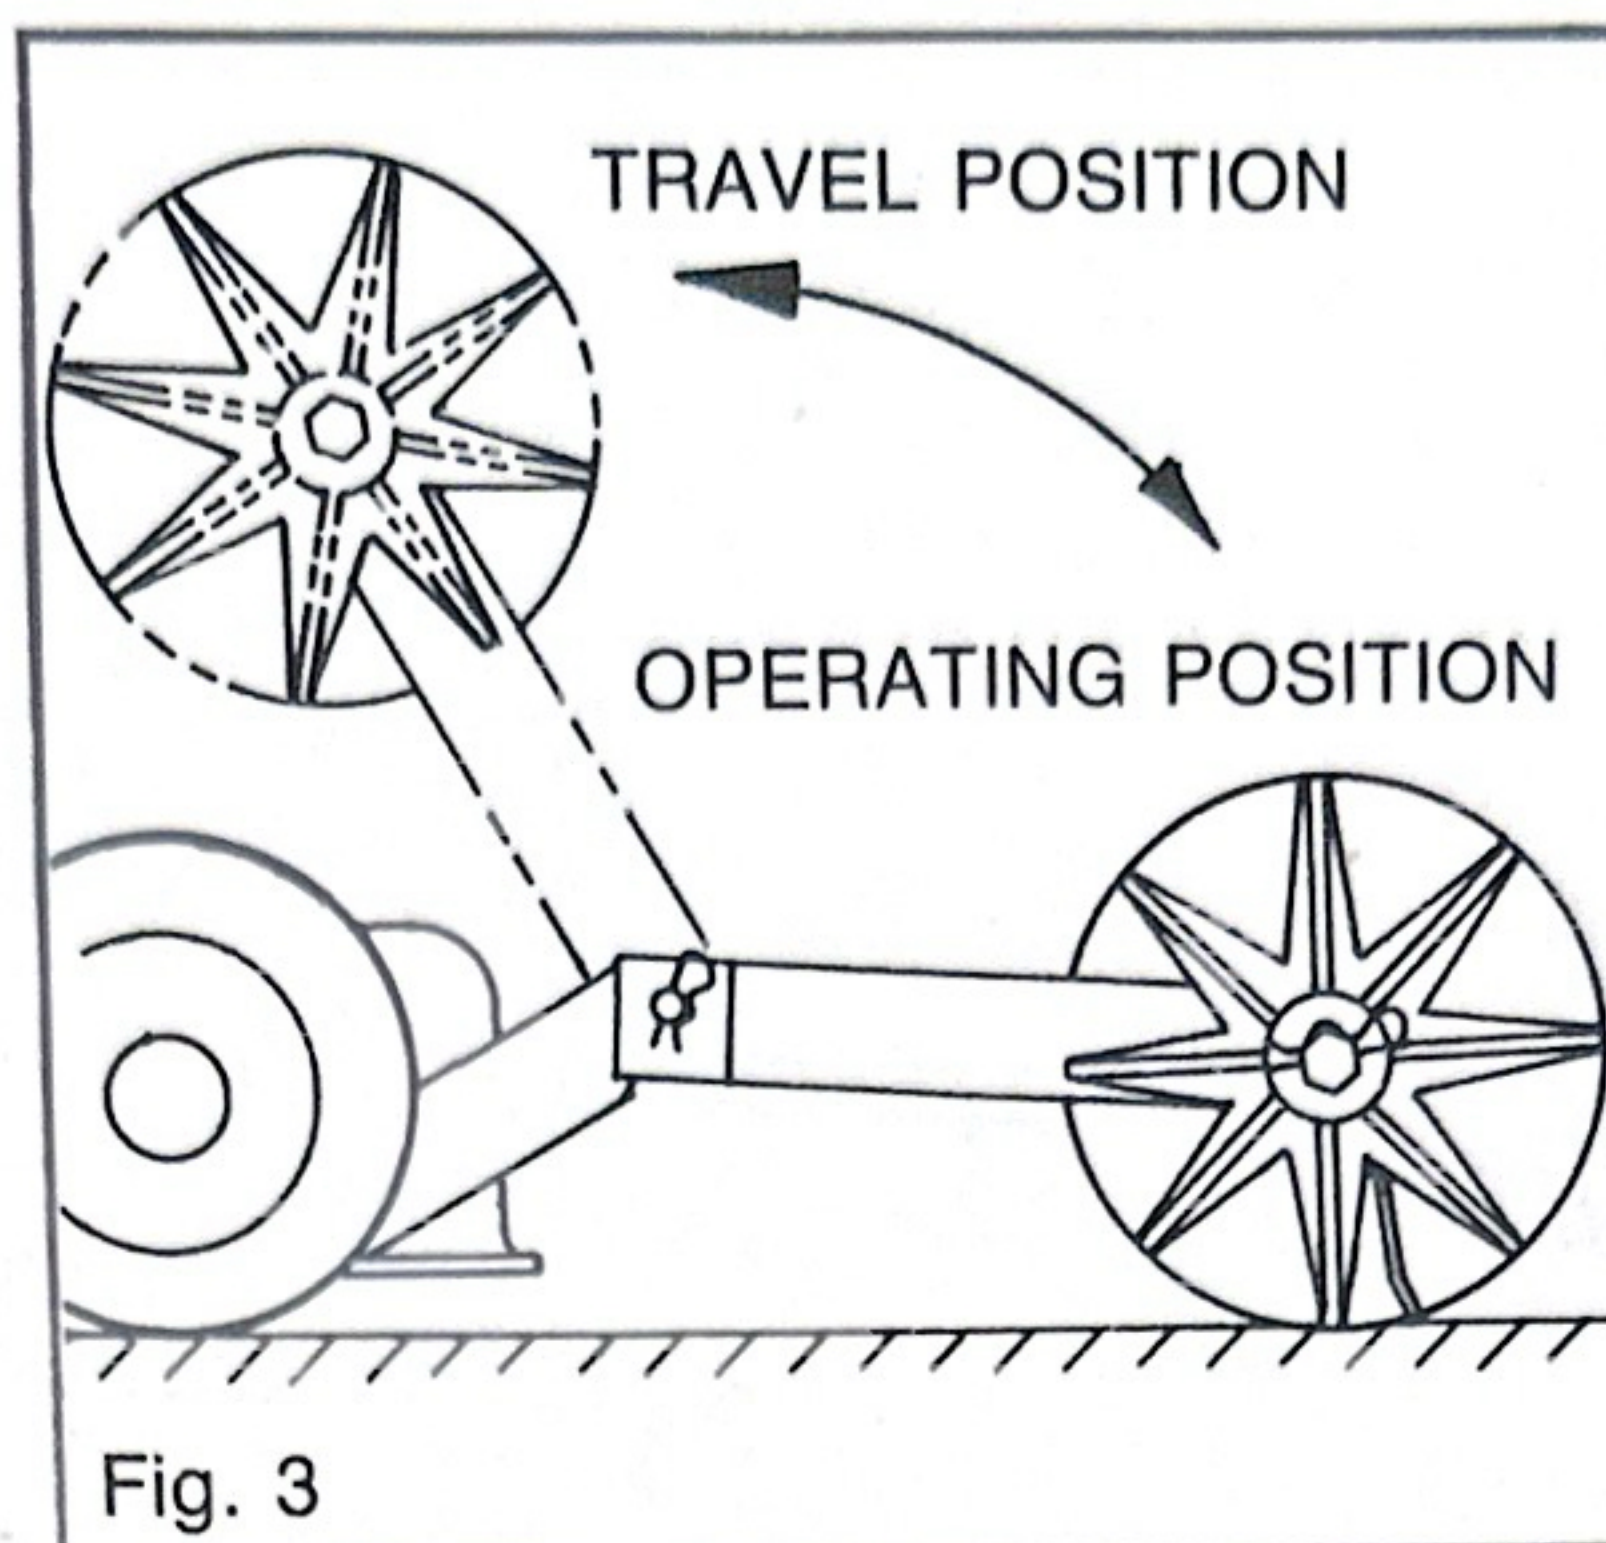

Fig. 3
1. Figure 3 shows the Thatch Eliminator Attachment in the basic position for use. When thatching is not desired, the unit can be pivoted into the travel position as shown or detached from deck brackets and stored for later use.